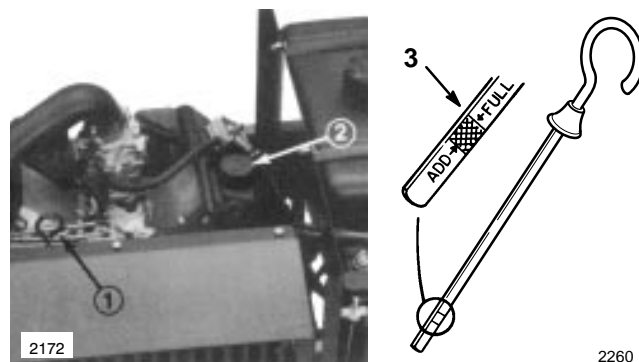

Figure 14
2. Clean around the oil dipstick and oil fill (Fig. 14) so dirt cannot fall into the filler hole and damage the engine.
3. Pull the oil dipstick out and wipe the metal end clean (Fig. 14).
4. Slide the oil dipstick fully into the dipstick tube (Fig. 14). Pull the dipstick out and look at the metal end. If oil level is low, slowly pour only enough oil into the filler hole to raise the level to the "FULL" mark.
5. Slowly pour approximately 80% of the specified amount of oil into the filler tube (Fig. 14). Now check the oil level; refer to Checking Oil Level, page 24. Slowly add additional oil to bring to "FULL" mark on dipstick.